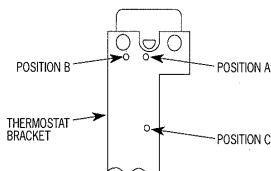

FIG 3
1. The thermostat gives an extended temperature control range (Fig 3) as follows: